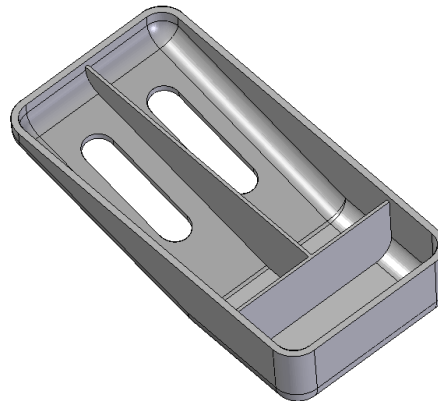

Figure 8-79 Model after creating the web network
- Create a web network in the model, refer to Figure 8-79.
6. Choose the **Finish** button from the ribbon bar to complete the web network, see Figure 8-79.